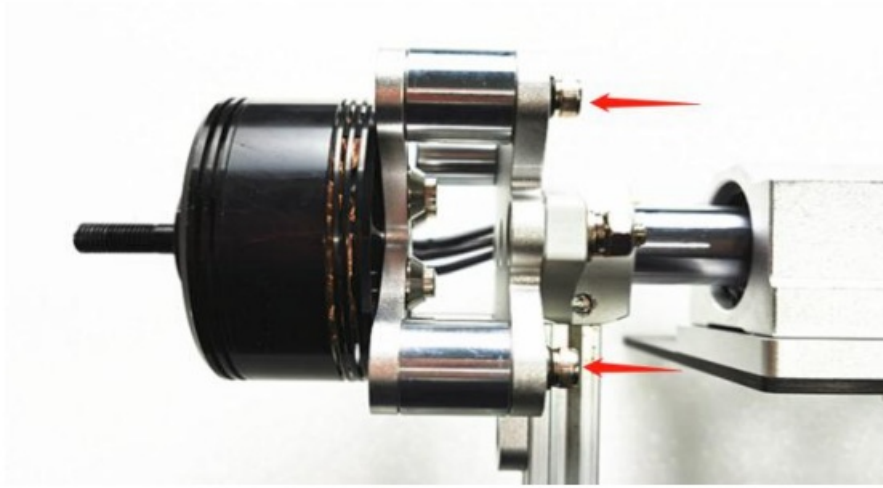

Fig. 2.1.5 Installation Completed
3. Install the motor on the test stand with screws. Motor cables should be on the side of the ESC Mounting Plate, as shown in Fig. 2.1.5: